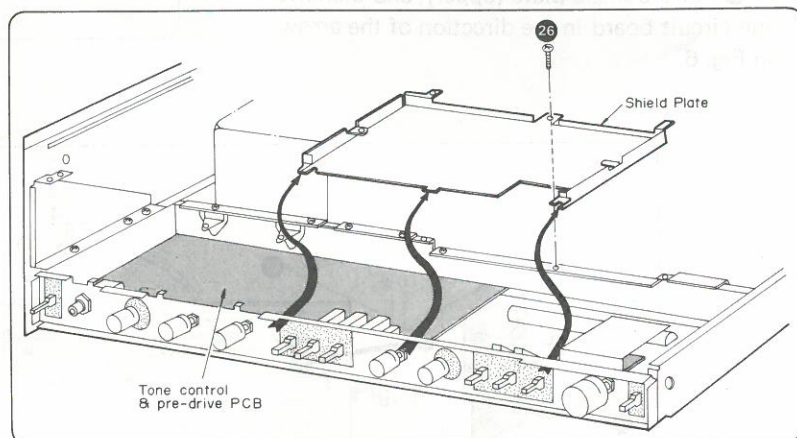

Fig. 7
2. When checking the tone control and pre-drive printed circuit board, first detach the tuner, FL display and voltage regulator printed circuit board, then remove setscrew 26 to detach the shield plate bottom (lower) as shown in Fig. 7. Subsequently, remove the bottom board, and then the printed circuit board can be checked.